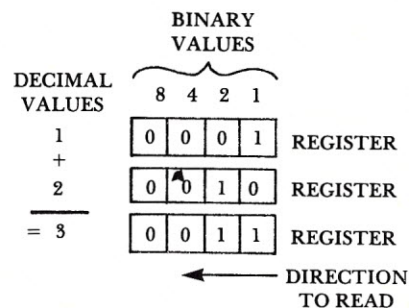

Figure 2
Figure 2 describes the basic approach. Here, we are going to add $1 + 1$. We are using a four-bit "word" in this illustration. In the first column (1) we have a 1 and a 0. If they are added, the result is a 1, which is placed in the third register (bottom). The next column (2) contains another 0 and 1 whose total is also 1 and is placed in its box in the bottom register. The other two columns (4,8) contain 0s; their total is 0. The result, shown in the lowest storage register, is 0011, the binary equivalent of 3. (Count up the values in the 1, 2, 4, and 8 columns.)